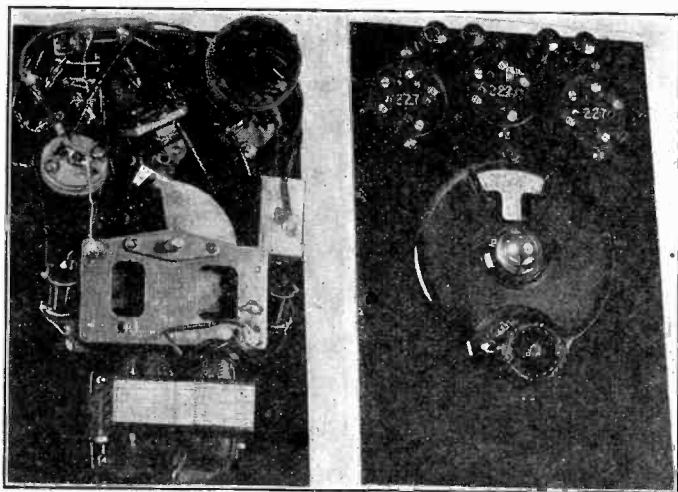
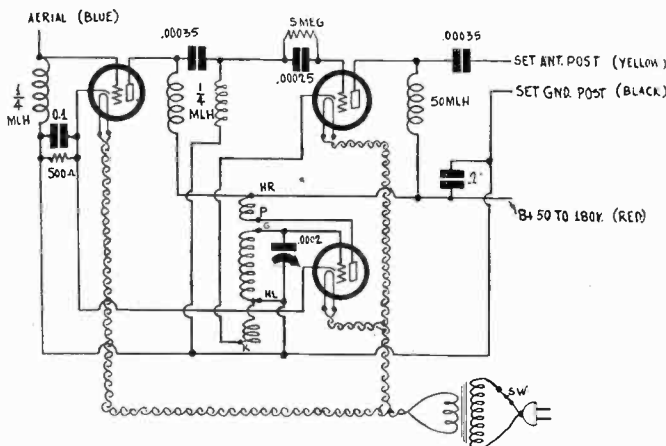

Fig. 1
Fig. 2
The model mentioned under (1) was built on a 5x6½-inch panel that fits into a wooden cabinet. Using a somewhat larger panel, 6x9 inches, room is provided for the filament transformer. How the larger sized layout appears is shown in Fig. 1, while the diagram of this is printed as Fig. 2. It is the same diagram as used for the smaller model, except for filament transformer added, but as there is not much doing above 80 meters, it was considered advisable to make the coil of lesser inductance, to tune from about 20 to 81 meters, with the .00035 mfd. condenser used. The winding data for this is as follows: On a tubing 1¾ inches in diameter, using No. 24 silk covered wire, wind six turns for the secondary, tap, and wind one more turn for pickup. Leave ⅛ inch space and wind 12 turns for the tickler. The connections, top to bottom, are: beginning of the secondary winding to grid of the oscillator tube, tap to ground, end of single-turn winding to cathode of the modulator, beginning of tickler (adjoining end of other coil) to B plus, and remaining tickler terminal to plate of the oscillator. The B plus voltage should be 50 volts or more, while even up to 180 volts may be used. This voltage you must obtain from the receiver with which the converter is worked.
The circuit diagram of the converter shown in Fig. 1.